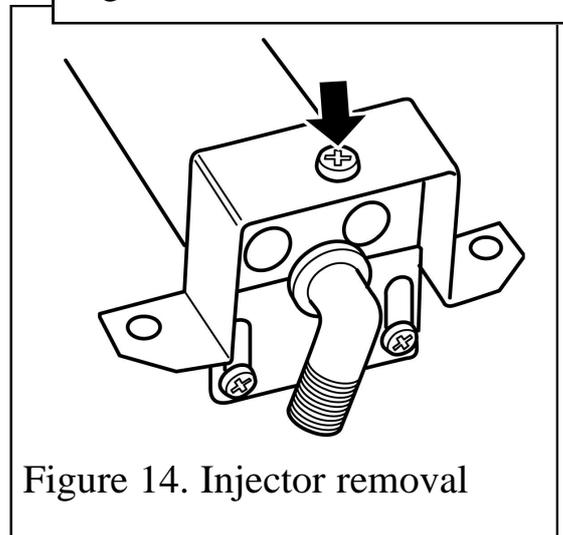

Figure 14. Injector removal
(See figure 14).
2. Remove the burner clamping screw (See figure 14)